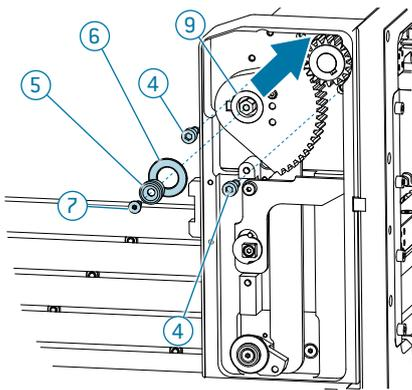

Fig. 191
- ▶ Remove the fixing screws from the cover (3) (hexagon socket width across flats 2.5).
- ▶ Remove the cover from the side panel (2).
- ▶ Remove the fixing screws (4) from the motor and push the motor back until the gears are no longer meshed.\*
- ▶ Remove the cover (5) and the washer (6) together with the screw (7) (hexagon socket width across flats 2.5).
- ▶ Place the socket wrench width across flats 8 (1) onto the now-exposed hexagon socket of the locking shaft (9).
- ▶ To unlock the receiver, turn the socket wrench counterclockwise until the system (8) is unlocked completely, see bottom figure.
- ▶ After removing the adapter (ITA), move the socket wrench width across flats 8 (1) back to the home position and reassemble everything by following the steps in reverse order [Fig. 191].